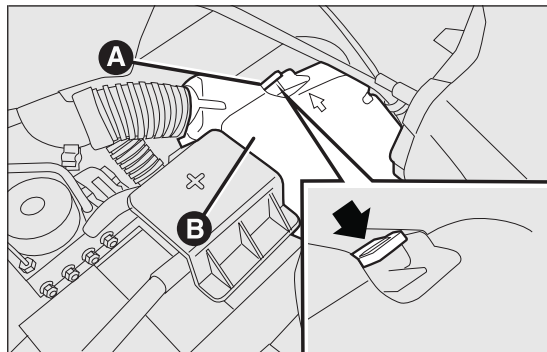

fig. 170
- ❑ press the tab A fig. 170 and remove the fuse box protective lid B;